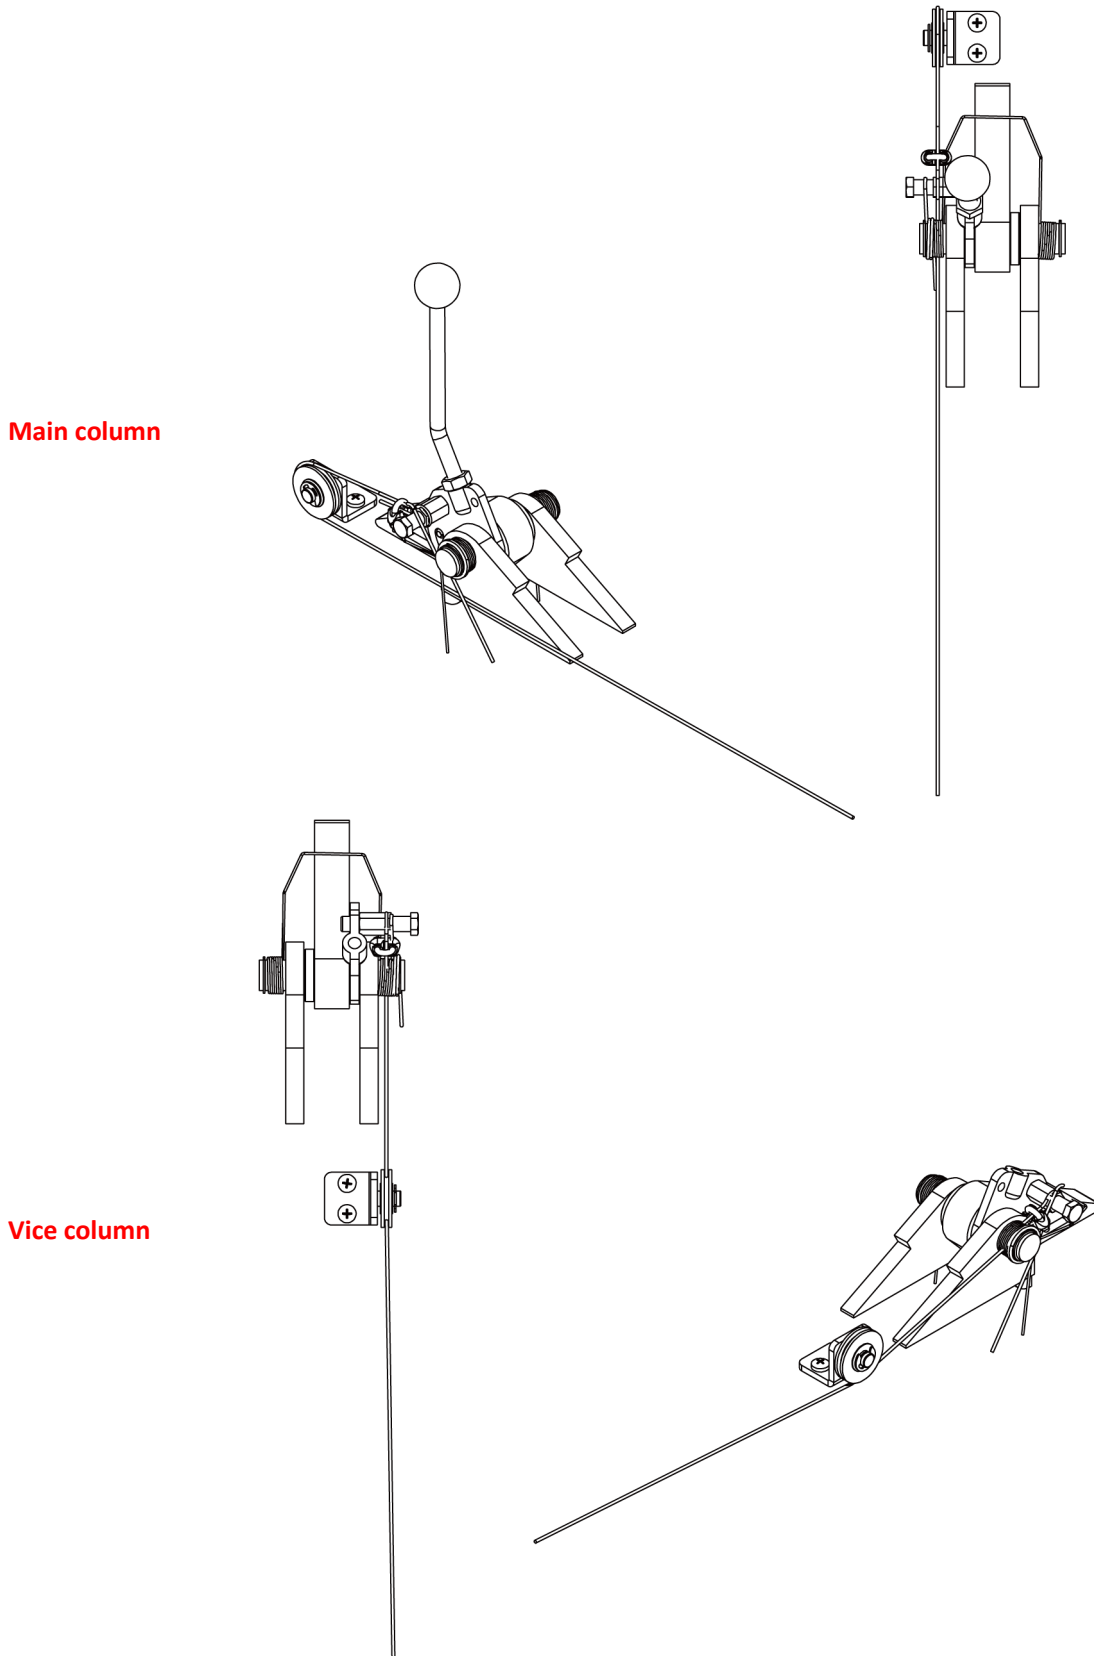

Fig 12
2.Install safety lock release cable to connect the safety lock on the main column and vice column. (Fig 12)